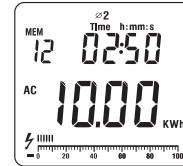

Figure 23
4. Press **SELECT** to choose one of the three phases ( $\varnothing 1$ ,  $\varnothing 2$ ,  $\varnothing 3$ ), see figure 23.